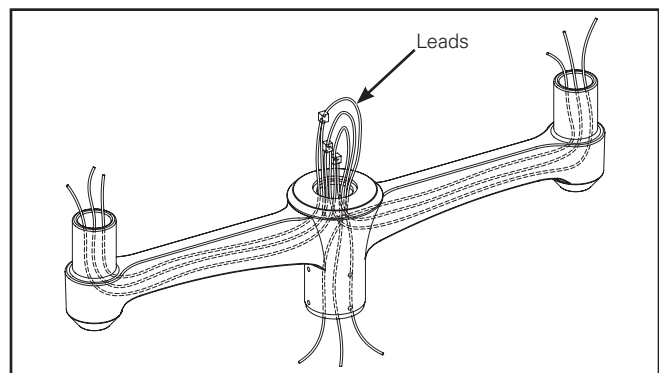

Figure 2.
3. Pull all leads from the pole and both arm wings out of the hole. (Figure 2.)